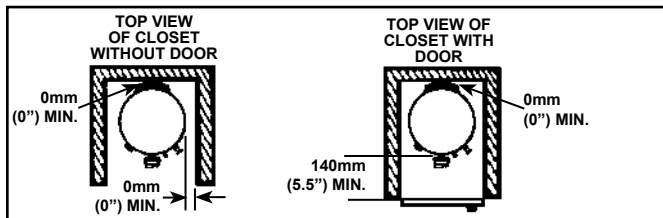
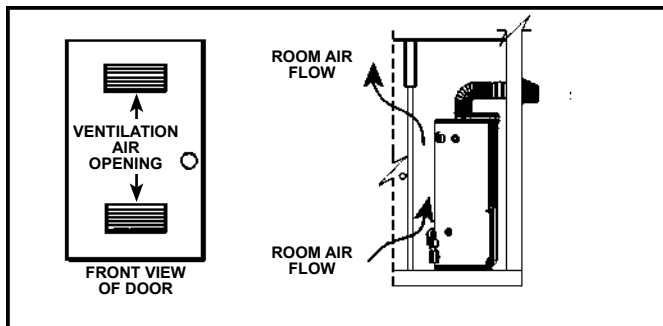

Figure 6
Figure 7
4. Carefully plan the place where you are going to put the water heater. Correct combustion, vent action, and vent pipe installation are very important in preventing death from possible carbon monoxide poisoning and fires (see Figure 6). Examine the location to ensure the water heater complies with the “Locating The New Water Heater” section in this manual.
When installed in a confined space such as a closet, it is recommended that the confined space be ventilated to minimize the buildup of heat around the heater. Figure 6 and Figure 7 show an examples of ventilating a confined space.
Minimum clearances between water heater and combustibles are 0mm (0") at the sides and rear, 140mm (5.5") from the front and 305mm (12") from top. Minimum clearances from vent piping to combustibles is 25mm (1") except as noted in Figure 20. If clearances stated on the heater differ from these clearances, install water heater according to clearances stated on the heater (see Figure 6).